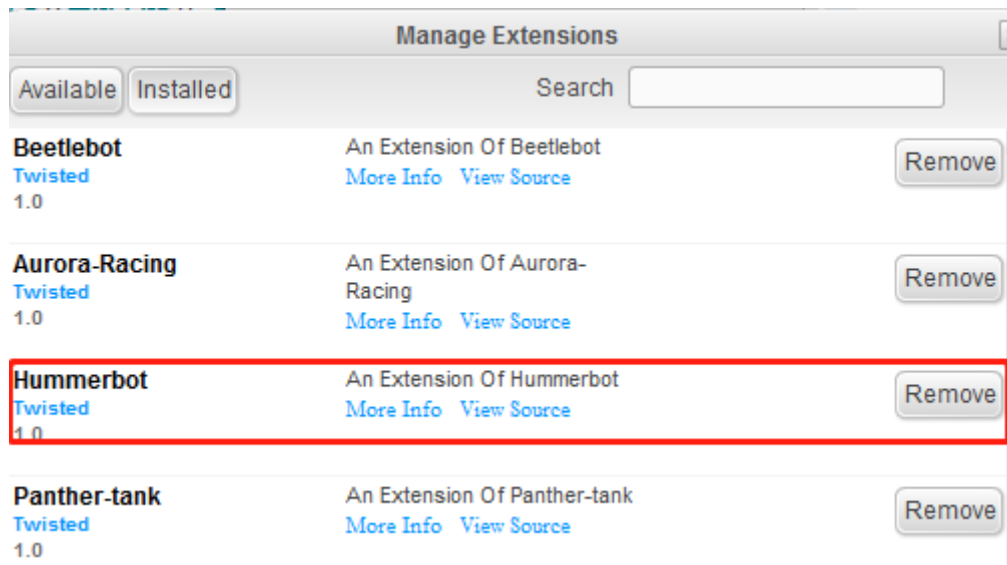

Figure 2-4
- 5) In the “Extension Manager”, click “Installed”, you will see that the Hummerbot library has been successfully added, as shown in Figure 2-4;